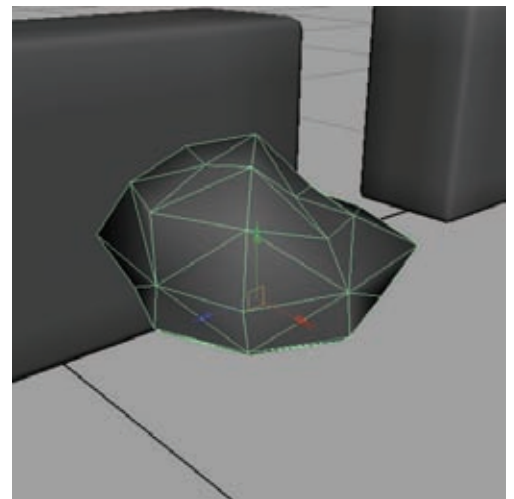

Figure 1.4
8. Back in Object mode, select Mesh → Triangulate (Figure 1.4).